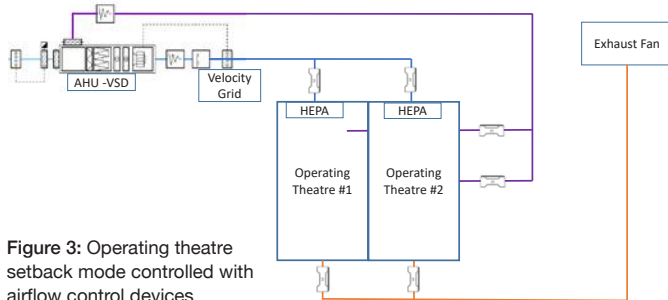

Figure 3: Operating theatre setback mode controlled with airflow control devices
2. Venturi Valves or Airflow Control Devices to achieve setback mode. With one air handling unit (AHU) to serve two operating theatres detailed in Figure 3.